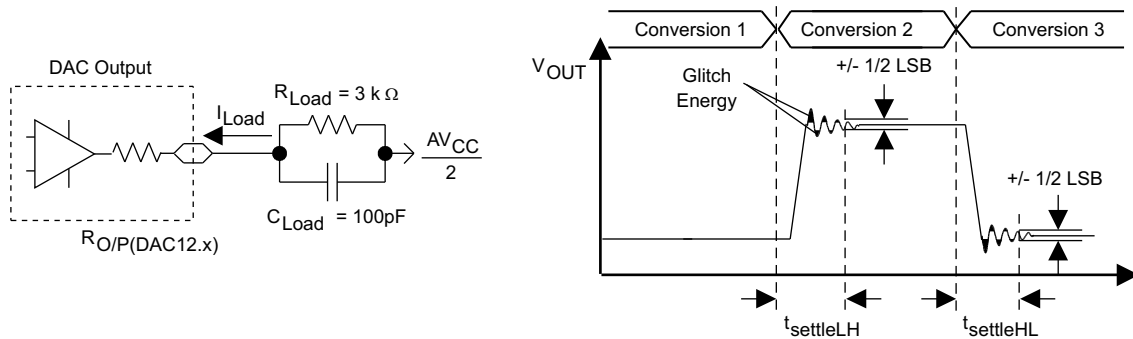
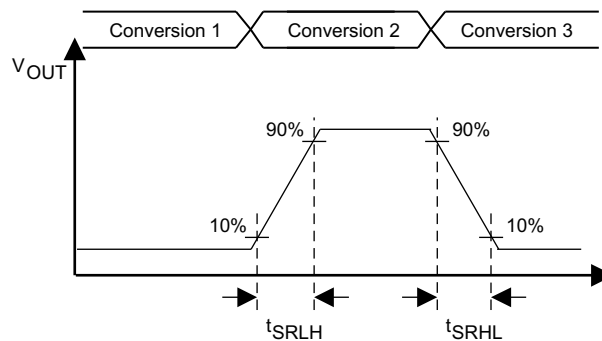

Figure 5-30. Settling Time and Glitch Energy Testing
Figure 5-31. Slew Rate Testing
$V_{ref} = V_{CC}$, DAC12IR = 1, over recommended ranges of supply voltage and operating free-air temperature (unless otherwise noted) (see Figure 5-30 and Figure 5-31)
- (1) R_{Load} and C_{Load} connected to AV_{SS} (not $AV_{CC}/2$) in Figure 5-30.
(2) Slew rate applies to output voltage steps ≥ 200 mV.